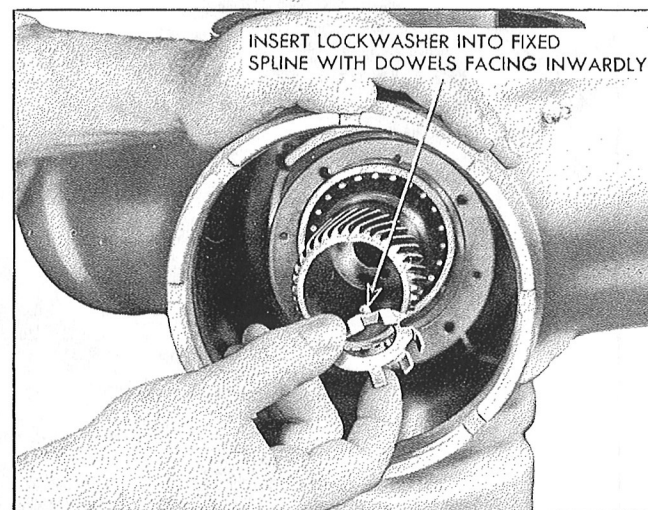

Figure 117—Installation of the Lock Washer
Step 6.—Insert the two lower dowels of a new star washer in the locking holes within the fixed spline. See Figure 117.